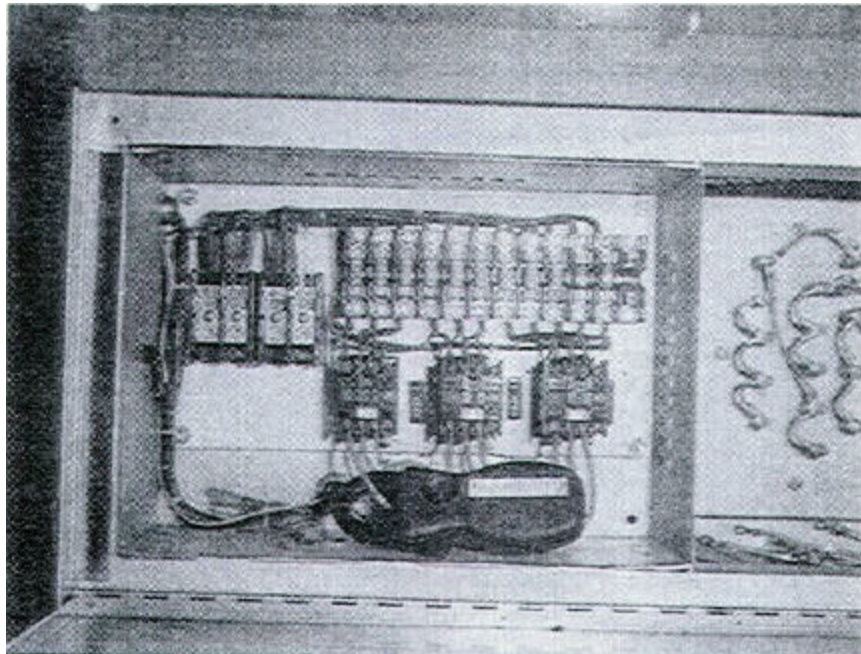

Figure 55. PS310/360 - Checking Output Side of Contactor with Amprobe.
C. Model PS310/360 Only - Checking the Heating Elements (Refer to Figures 55, 56 and 57)
Check the amp draw from the output of each contactor, See Figure 55. This should be: